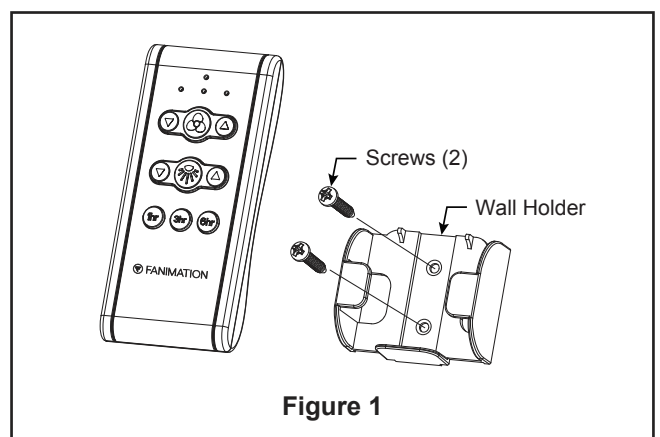

Figure 1
1. Installing Wall Holder: (Figure 1)